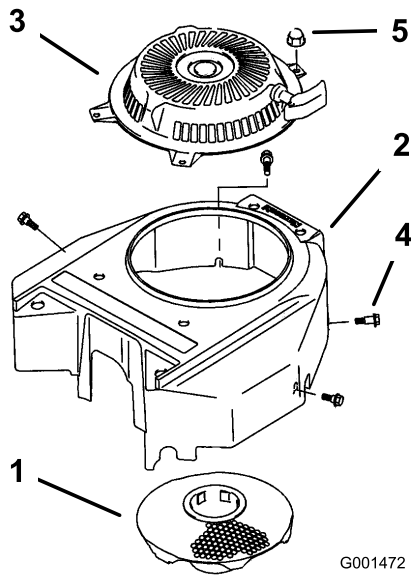

Figure 47
3. Remove the air intake screen, recoil starter and fan housing (Figure 47).
5. Install air intake screen, recoil starter and fan housing (Figure 47).